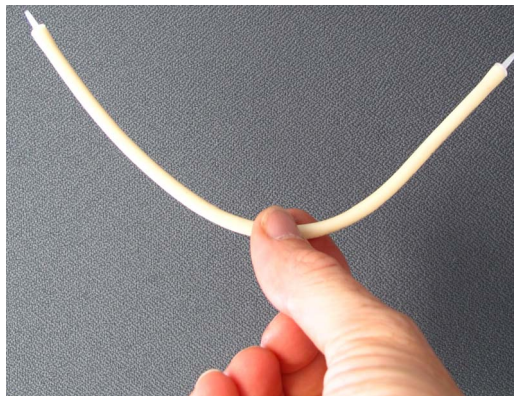

Fig. 5-15: Intrinsic bend of the tube
- 13 Lift the new pump tube (PT) to discover its intrinsic bend. See Fig. 5-15, 87.